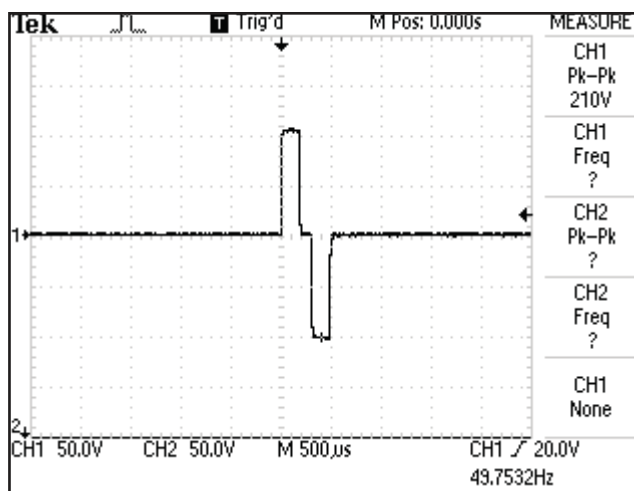

FIGURE 4.6
E. VMS™ - Figure 4.6 (Vectra Genisys, and Intellect Vet)
- Output Intensity.....0-200 mA (CC)